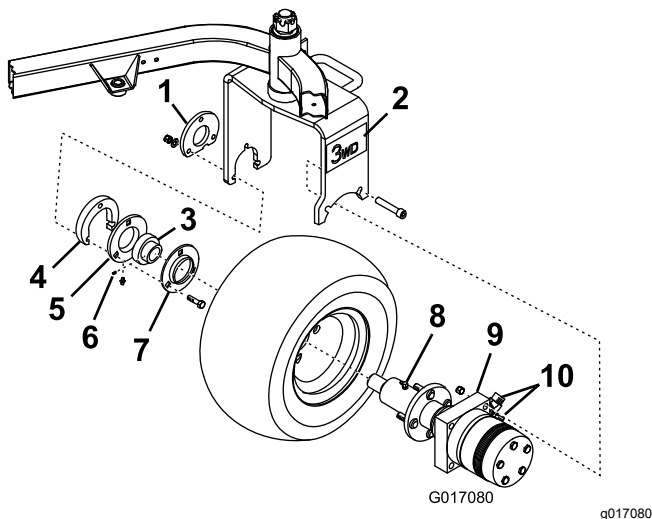

Figure 2
1. Mount the 2 fittings (45°) to the side of the motor assembly (Figure 2).
2. Remove the grease fitting from the new motor and hub assembly (Figure 2).
5. Insert the flangettes and bearing onto the end of the motor shaft as shown in Figure 2.
Note: Ensure that the motor is oriented with the hydraulic fittings to the rear of the machine (Figure 2).
7. Loosely secure the motor to the inside of the caster fork with 2 socket-head screws and 2 locknuts (Figure 2).
Note: The grease fitting must be in the downward position on the flangette (Figure 2).
14. Apply a 3-wheel-drive decal to each side of the caster fork (Figure 2).